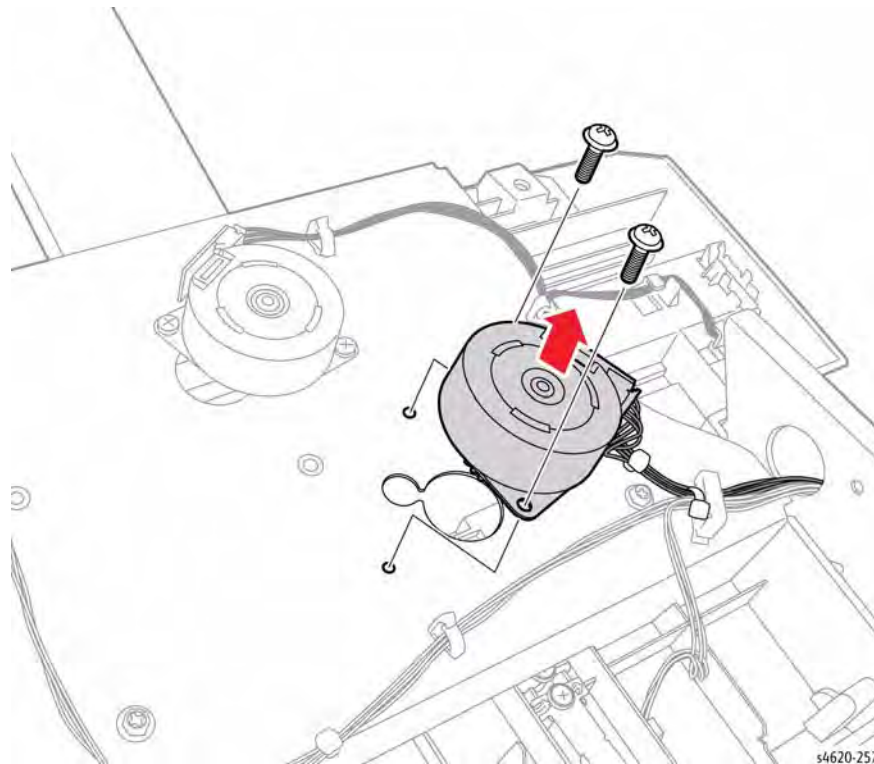

Figure 1 Remove the Tamper Motor
7. Slide the motor to feed the gear through the bracket opening, Figure 1.